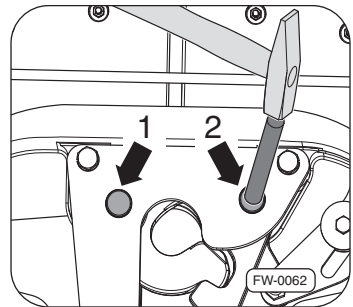

Fig. 32 · Dismantling the bolt
5. Dismantle the bolts ⇒ Fig. 32, -arrow 1- and -arrow 2- from the lock jaw and lock hook.